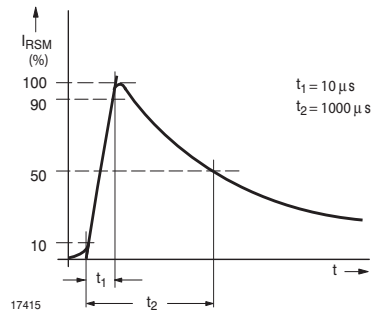

Figure 5. Non-Repetitive Peak Reverse Current Pulse Definition
1) Non-repetitive peak reverse current in accordance with "IEC 60-1, Section 8" (10/1000  $\mu\text{s}$  pulse); see Fig. 5.